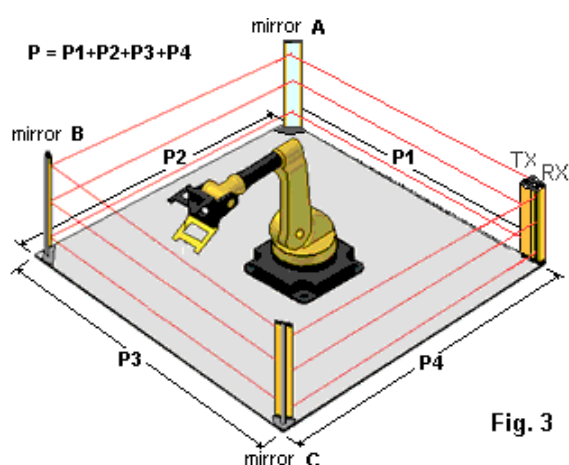

Fig. 3
- Total protection when the light curtain protect 4 sides with the employ of 3 mirrors as fig. 3.